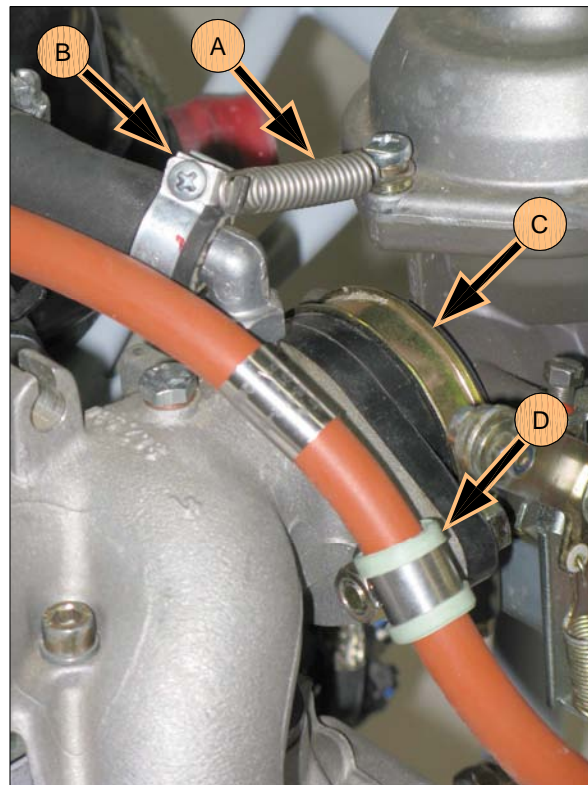

FIGURE 1:
Step 1: Disconnect the damping spring (A) from the clamp bracket (B). See Figure 1. Loosen the band clamp (C). Remove the carburetor with a slight turning and swivel action. Remove the band clamp (C). Disconnect the fuel line clamp (D) from the intake manifold by removing the retaining nut.